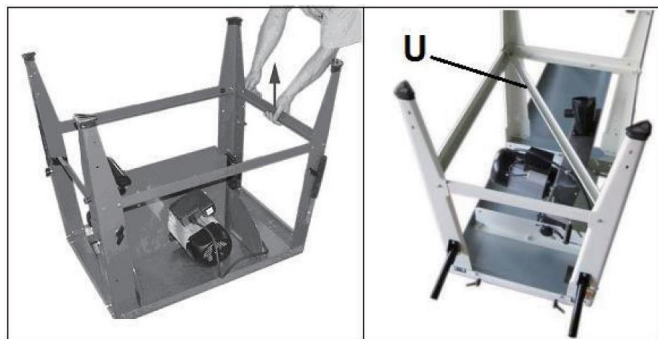

Fig. 3
Insert the short crossbeams (Fig 3) and tighten the nuts.
Attention: The support bracket (U) install as Fig. 3.